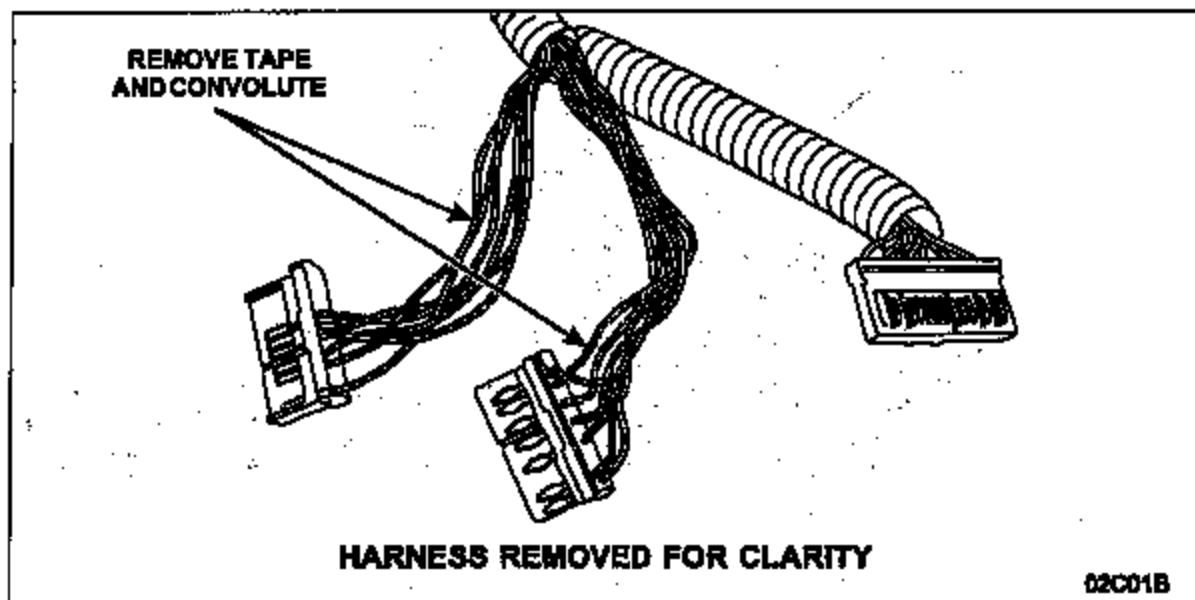

FIGURE 2
3. Remove the tape and the convolute from the C250A and C250C harnesses up to the point they join the main harness. Retain the convolute. It will be reinstalled. See Figure 2.